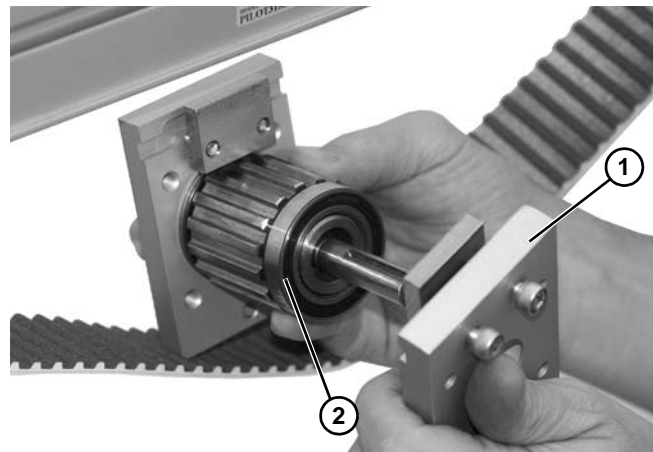

Figure 71
6. Install mounting block (**Figure 71, item 1**) onto spindle (**Figure 71, item 2**).